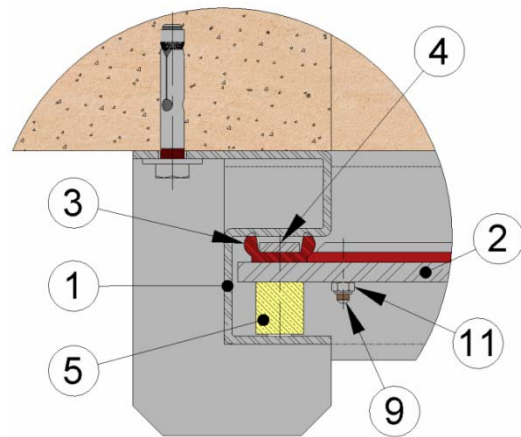

fig.9
3. Loosen and extract the screws (9, 3 and 11) which secure the flanges (4) and the sealing joint (3).
4. Remove the flanges (4) and finally the deteriorated joint (3), clean the housing.
5. Fit a new sealing joint (3) with the same dimensions as the old one.
6. Replace the flanges (4), securing the seal (3). It is important that the side seals and the lower seal protrude around five millimetres from the lower part of the through conduit (2) in order to make the lower seal. Having checked that they are correctly assembled, screw them down.
7. Introduce the through conduit in the body, bearing in mind that if the penstock is unfavourable unidirectional or bidirectional, the sealing joint will have two peaks and its position must be with the peaks open (Fig. 9).